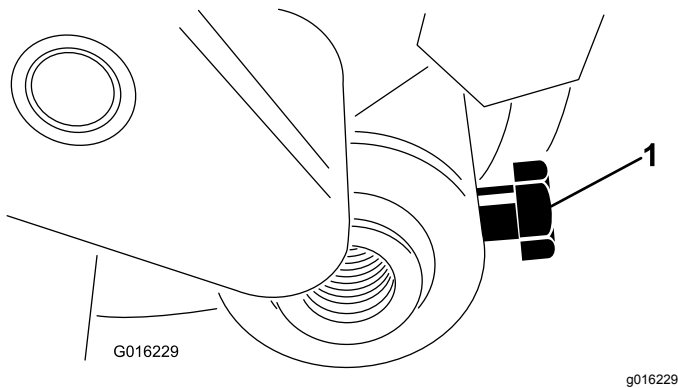

Figure 15
- Insert the roller shaft into the right adjuster arm and loosely secure it with the roller-shaft bolt (Figure 15).
4. Center the roller between the adjuster arms and tighten the mounting bolts (Figure 15).